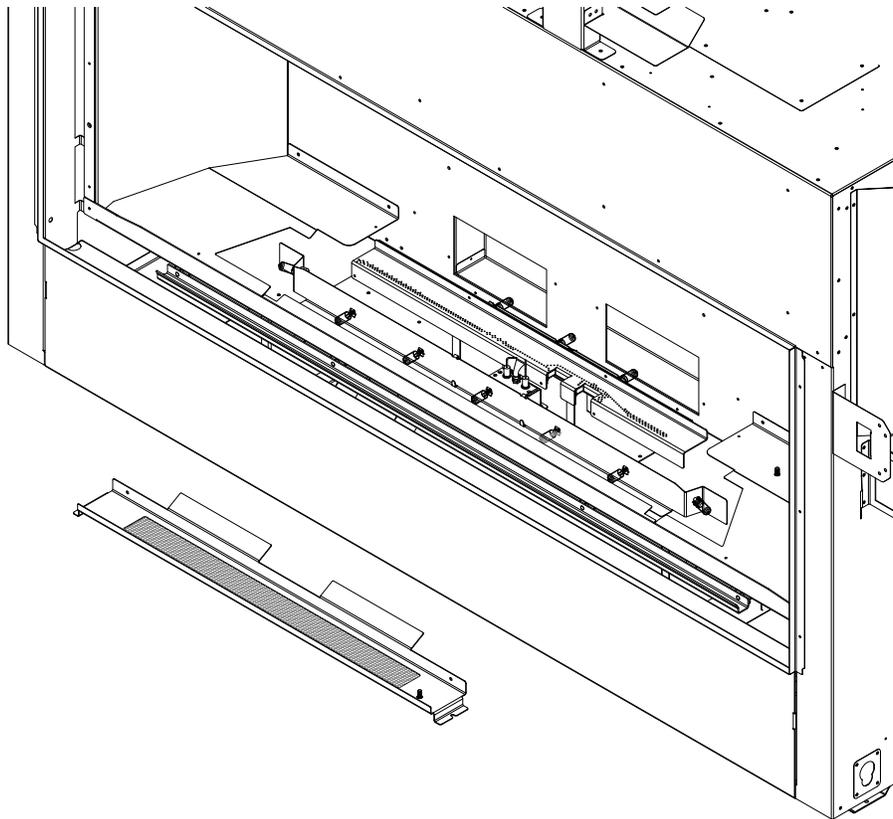

Figure 8.5 - Rear Media Tray Removal
2. Remove and retain (2) screws from the back ember bed media tray. Remove media tray. See Figure 8.5.
3. Install (3) halogen bulbs (included in components packet) into the lamp base.